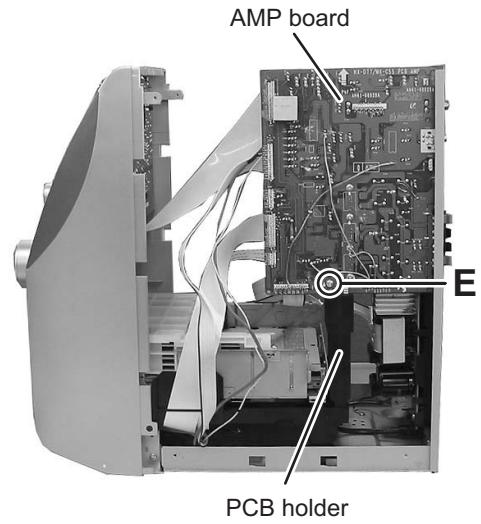

Fig.5
- (5) From the right side of the main body, remove the one screw **E** attaching the AMP board to the PCB holder. (See Fig.5)
- (6) Take out the AMP board from the main body.